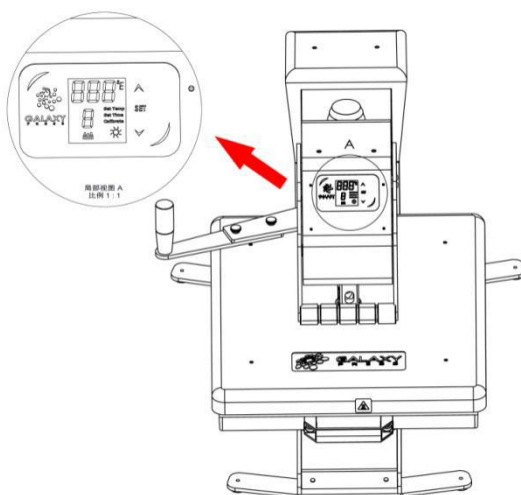

Figure 1
8.1 First, locate the LED Display on the Press.(See figure 1)
A visual Pressure Readout is located on the lower right side of the LCD Display. When the handle is locked into the Print Position, a pressure number will be displayed. Readout will be on a scale of 0 - 9. A 0 Pressure readout would indicate no pressure at all and 9 would indicate very heavy pressure.(See figure 1)